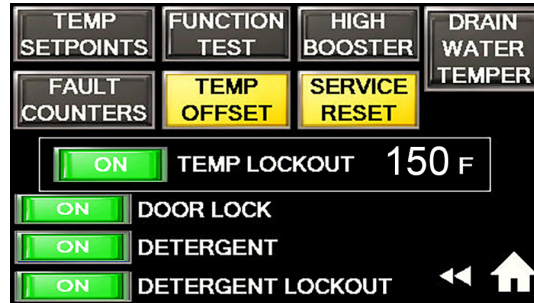

Fig. 70- MAINT menu
**NOTE:** The functions listed below are only used by service agents to program the operation of a machine if equipped with special options, (Fig. 70).